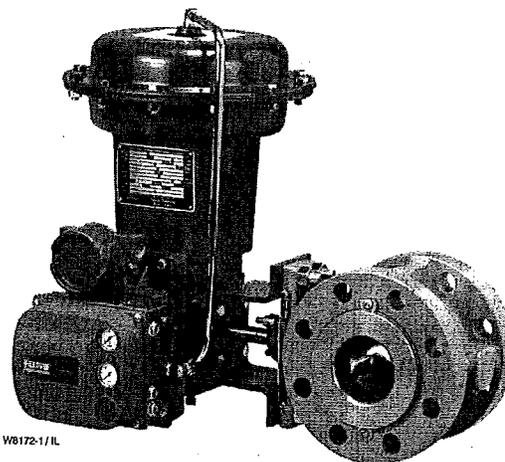

Figure 1. Type Vee-Ball with Type 1052 Actuator and DVC5020 Positioner
(1- through 12-inch sizes) rotary control valves (see figure 1). Sizes 3- through 12-inch without an attenuator currently in production are referred to as Series B (for more information on this distinction see Appendix A).
The Designs V150, V200, and V300 Vee-Ball valves (figure 1) with a V-notch ball are used in throttling or on-off service. The Design V200 is a flangeless construction. The Design V150 and V300 valves are raised-face flanged constructions. The splined valve shaft of all these valves connect to a variety of rotary-shaft actuators.
6. The actuator can be right- or left-hand mounted with the shaft in a horizontal orientation as shown in figure 1. If necessary, refer to the appropriate actuator instruction manual for actuator installation and adjustment procedures.